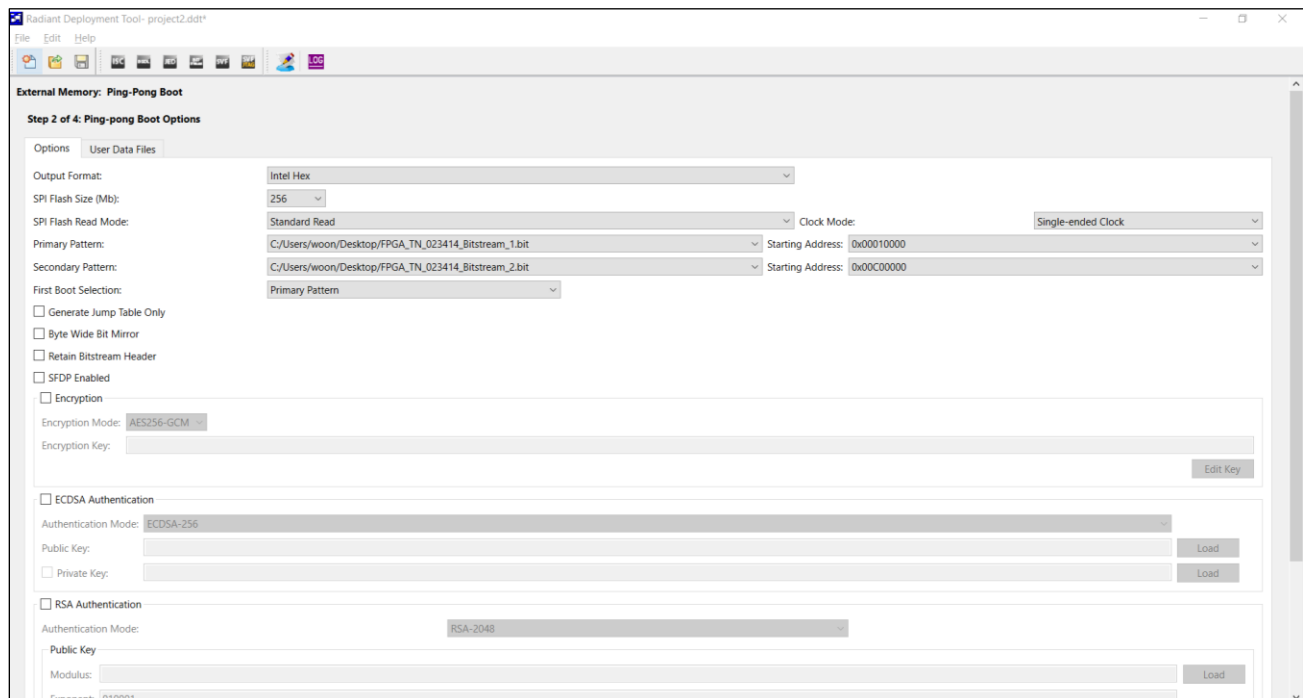

Figure 7.8. Ping-Pong Boot Options Window
Step 2 of 4: Ping-pong Boot Options window (Figure 7.8)